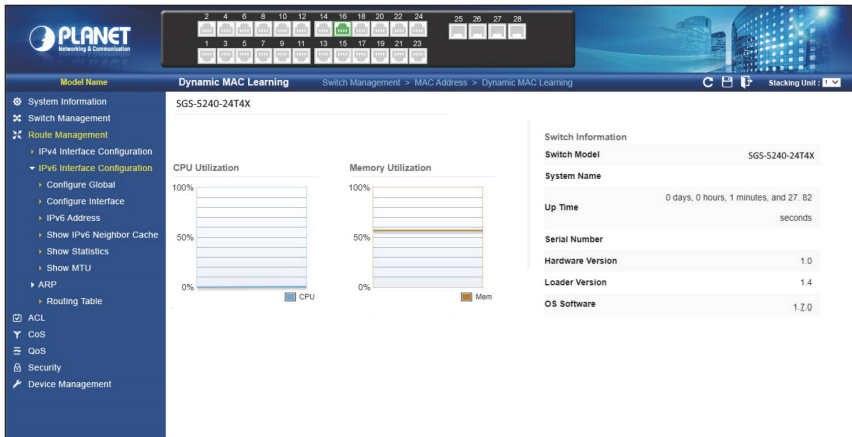

Figure 5-3: Web Main Screen of Managed Switch
3. After entering the password, the main screen appears as shown in Figure 5-3.